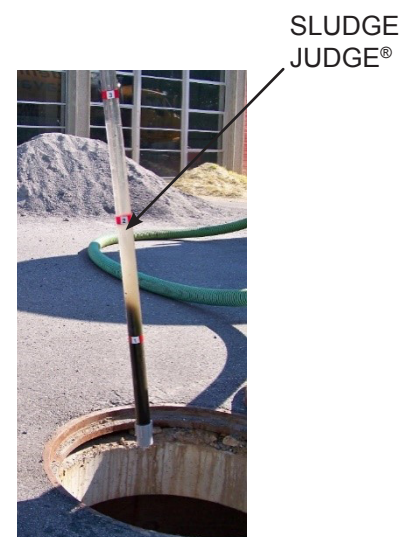

Figure 6
- Sediment depth inspections are performed through the **Outlet Riser** and oil presence can be determined through the **Oil Inspection Pipe** (see **Figures 6 and 7**).